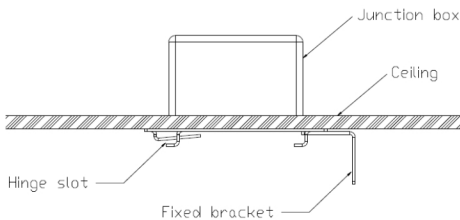

FIG.6
1. Secure the mounting bracket (provided, see FIG. 6) to junction box (by others)